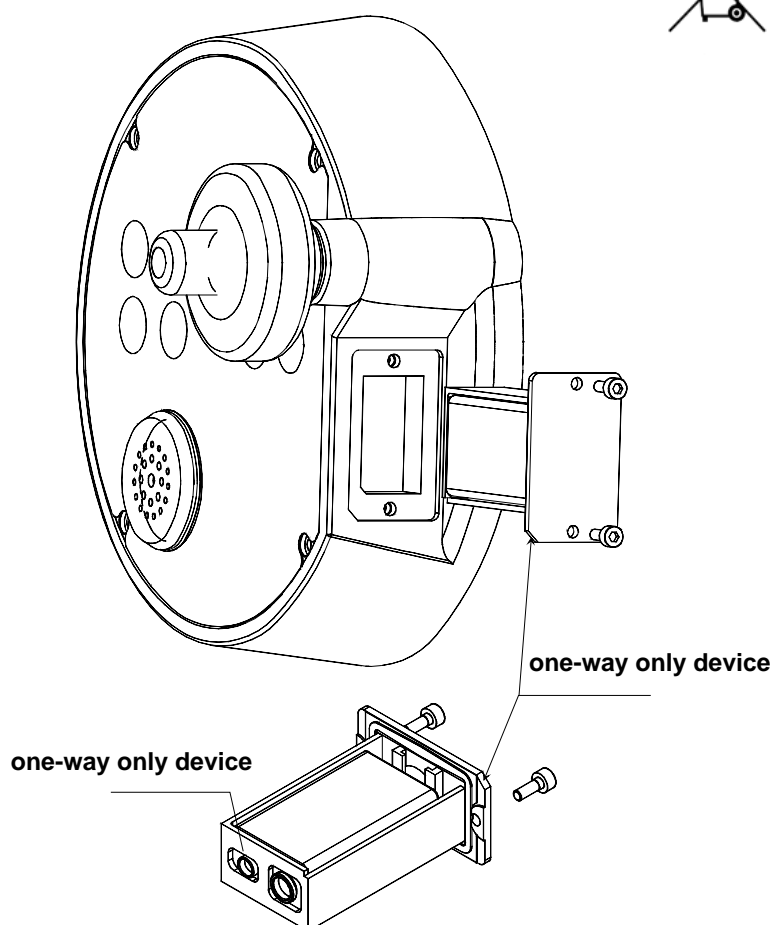

Figure 8-4
- Unscrew the 2 screws of the battery holder using the 2,5 mm Hex Allen key which is located on the carrying case. See Figure 8-4.
- Change the battery (one-way only device). See Figure 8-4.